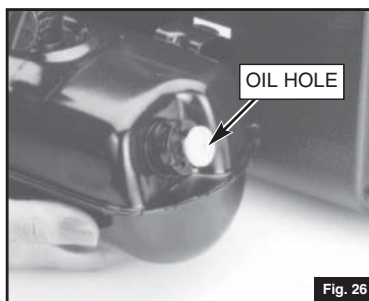

Fig. 26
2. Seasonally or before storage, squirt a few drops of oil into the OIL HOLE in the pump cap. This will keep the pump functioning properly. (Fig. 26)